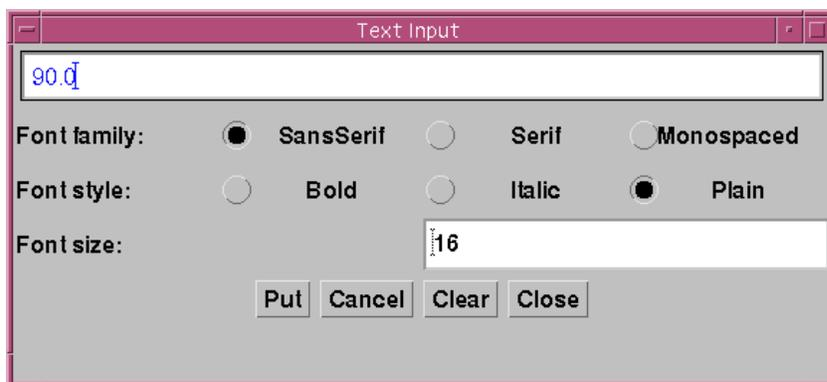

Figure 76. Text Input Window
2. Open the Text Input window shown in **Figure 76** by clicking the text input tool  .